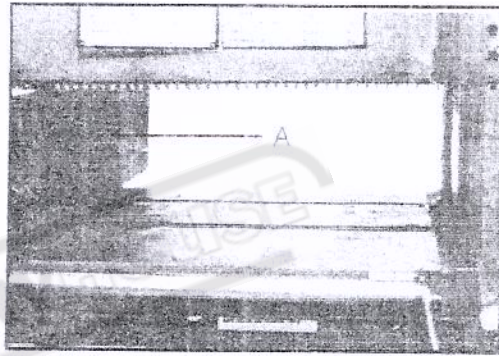

Fig. 22
2. Place gage block(A)Fig.22 on table directly under front edge of head casting (B)as shown. Lower head casting until front edge of head casting just touches gage block.